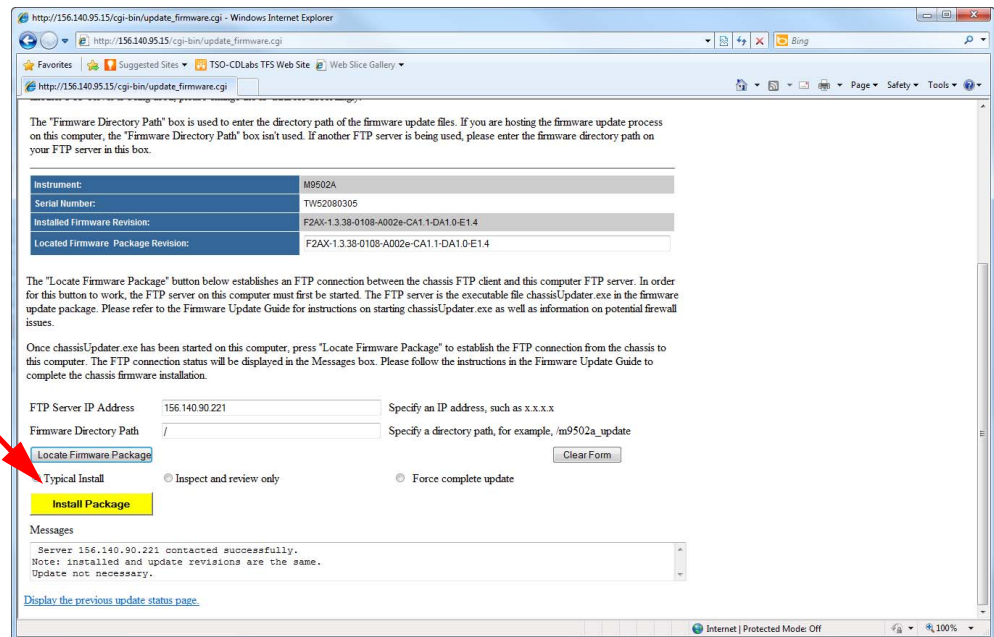

Figure 10 Update Chassis Firmware page (with installation options)
- c After a few moments, when the utility locates the firmware update package, the page automatically refreshes and provides a choice of installation options (see Figure 10). Note that you may need to scroll to the bottom of the page.